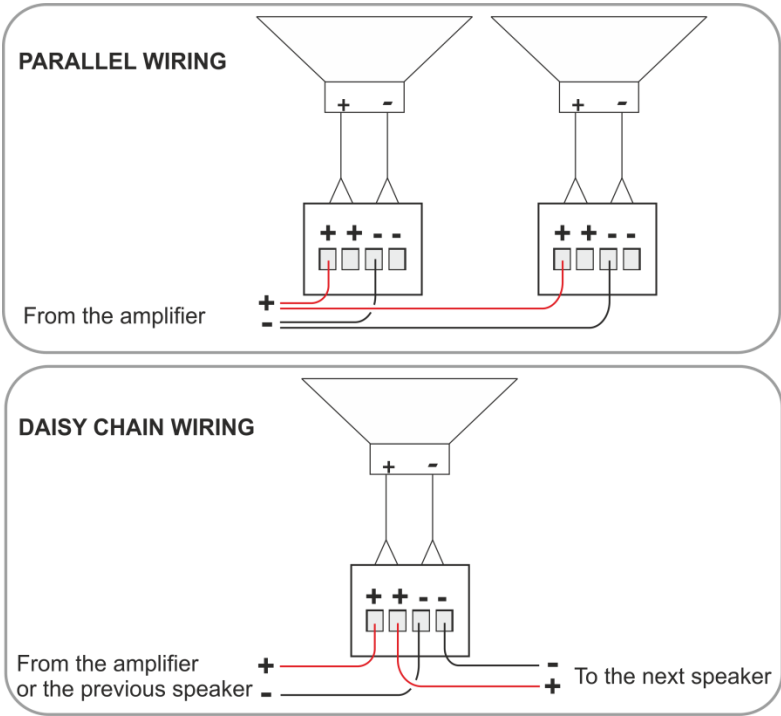

Figure 3: Galil 8-C Schematic Diagram
Figure 3 shows a schematic diagram of the **Galil 8-C**:
- **Wiring in parallel:** connect the amplifier directly to each of the speakers. When one input connector is removed, subsequent speakers will remain connected (see Figure 3)
- **Daisy-chaining:** connect the wire pair (+ and -) of the speaker to the subsequent speaker + and -. When one input connector is removed, subsequent speakers will be disconnected (see Figure 3)